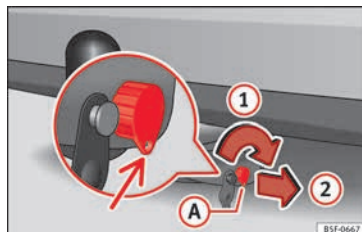
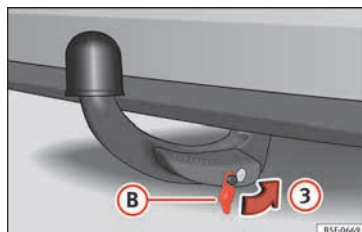

Fig. 223 Locking the lock
Fig. 224 Placing the cover over the lock.
- Turn key **A** in the direction of arrow ① until the part of the key with the holes reaches the bottom position » **Fig. 223**.
- Remove the key in the direction of arrow ②.
- Place cover ① in the lock in the direction of arrow ③ » Fig. 224 » ①.